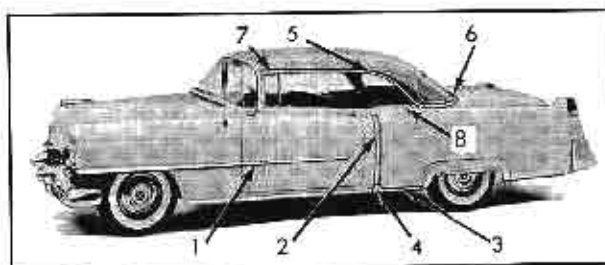

Fig. 3-87 Coupe Body Moldings
1. Door Lower Molding --- Remove door trim pad and loading hole cover. Remove screw at hemming flange and attaching nuts and washers at door panel then remove molding. Reverse above procedure to install. Fig. 3-87.